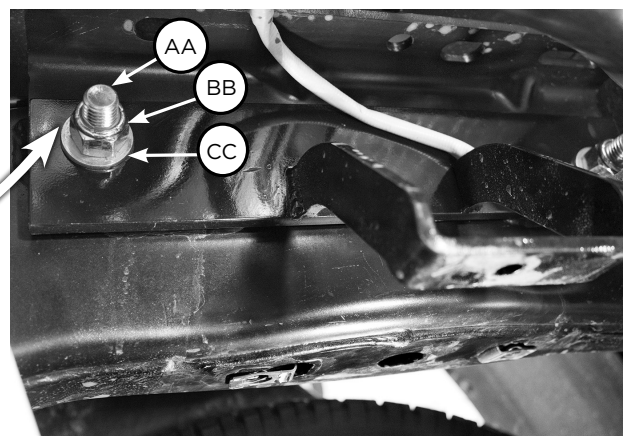

Fig. 32
- Some models come equipped with a factory fifth-wheel bracket. It will be necessary to remove the hardware from these holes if the vehicle has this bracket. Find the two holes located under the factory fifth-wheel brackets. Attach the upper frame brace using the included 5/8" hex cap screws (AA), nuts (BB) and washers (CC) (Fig. 32).